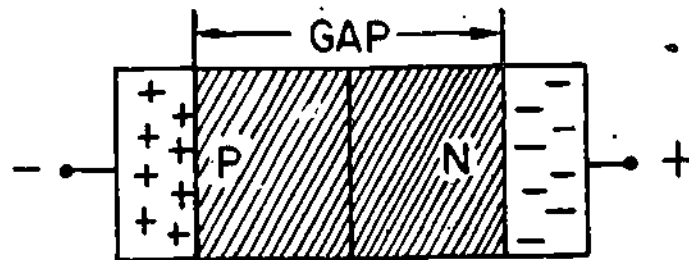

Figure 19
21. A varactor diode must be operated with reverse bias. In a varactor, a negative voltage applied to the terminal of the P-type material will attract the positive particles. This causes them to move away from the PN junction. In a similar manner, a positive voltage applied to the terminal of the N-type material will attract the negative particles, causing them to move away from the PN junction. This reverse bias voltage increases the size of the depletion region. Figure 19 shows this condition.